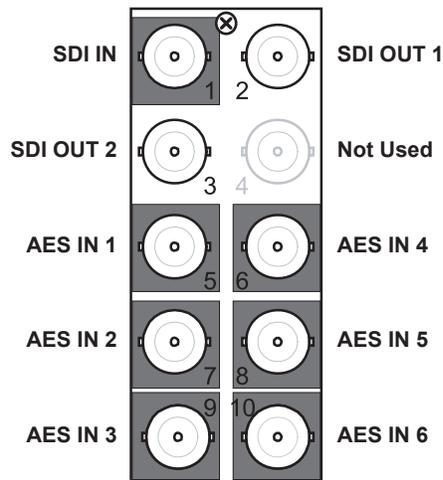

Figure 16 Cable Connections for the SFS-8622-A
**Figure 16** illustrates the cabling designations for one SDI input, two SDI outputs, and six AES-3id 75ohm unbalanced inputs. The **AES I/O Config** is set to **6 in, 0 out**.